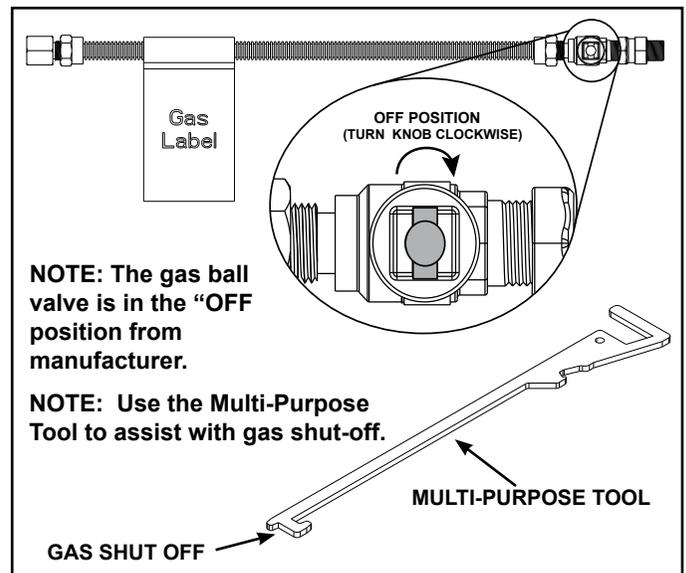

Figure 7.1 Gas Shut-off
- Use multi-purpose tool to assist with gas shutoff. See Figure 7.1. The gas ball valve is in the “OFF” position from manufacturer.